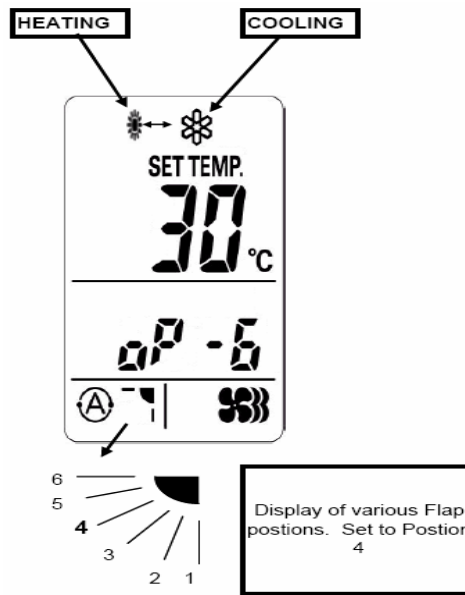

Figure 1
5. Press the “FLAP” button to adjust the Flap position. For all ARI test conditions the flap should be set at the number 4 position as shown in Figure 1 below (in approximately a 45 degree angle).